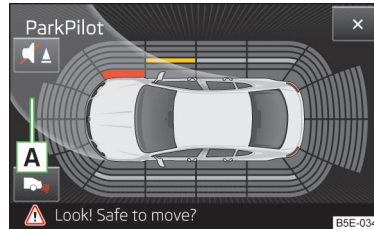

Fig. 140
- By means of the key **↔** in the infotainment display » Fig. 140 on page 142 the display can be switched to the camera image » page 143, *Optical Parking Assistant (rear view camera)*.
The display of the upcoming road changes depending on the steering angle **A** » Fig. 140.